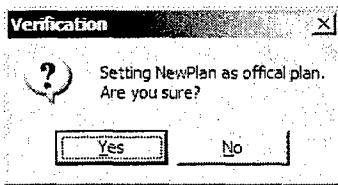

Figure 34. Verify Change in Official Plan
- Verify that you want to set a new official plan (see Figure 34). Changes to the SRB History table will take several minutes.